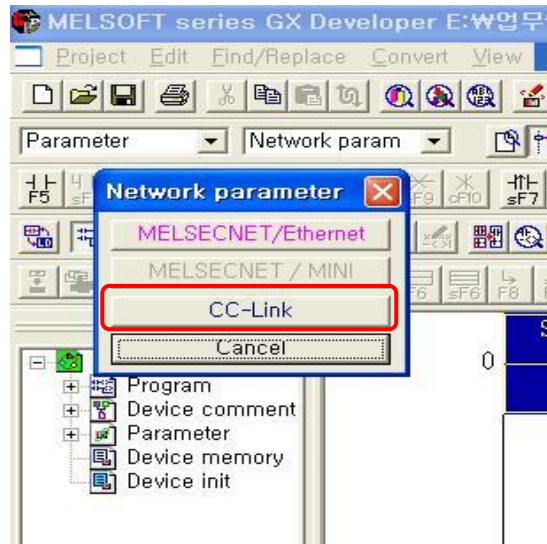
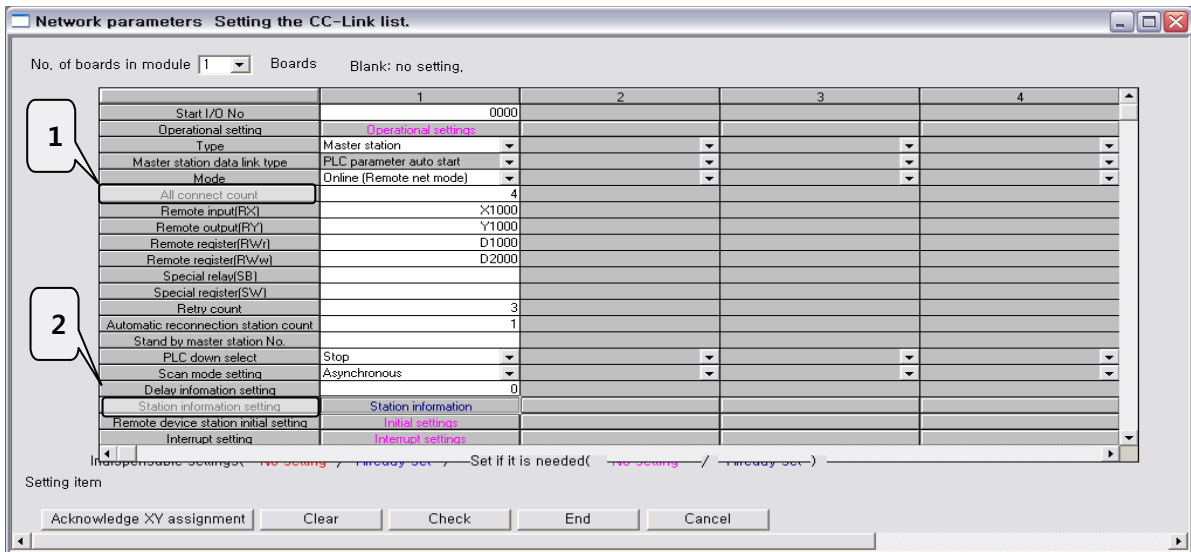

Fig. 5.1 How to set CC-Link network parameters in GX Developer
Fig. 5.2 Setting CC-Link master station network parameters
To set CC-Link network parameters in GX Developer, click the following in order of Parameter → Network parameter → CC-Link as the setting shown in Fig. 5.1 and open a window for setting CC-Link network parameters as seen in Fig. 5.2.
- 1) All connect count : Represents the number of entire slave stations attached to one master station. Fig. 5.2 shows setting in which 4 slave stations are used.